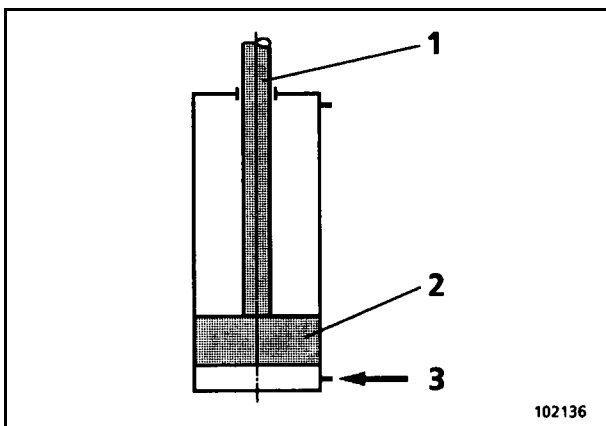
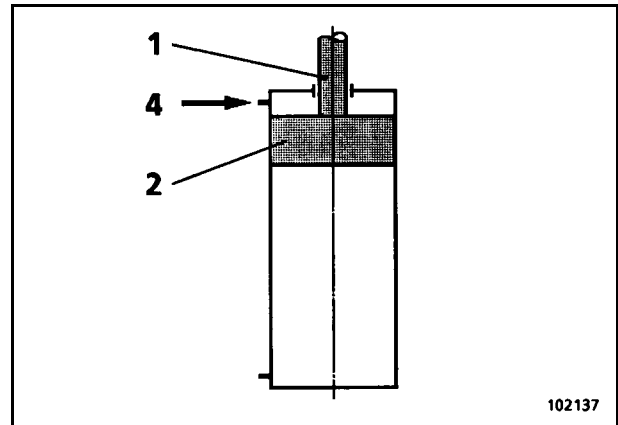

Fig. 3-97:
Fig. 3-98:
Before the initial admission of the cylinder with oil, the piston must be in either of the two extreme piston positions. In other words, the piston rod (1, Fig. 3-97: and Fig. 3-98:) must be either completely retracted or completely extended.
- the piston-side port (3) when the piston rod is retracted (1, Fig. 3-97:),
- the rod-side port (4) when the piston rod is extended (1, Fig. 3-98:).